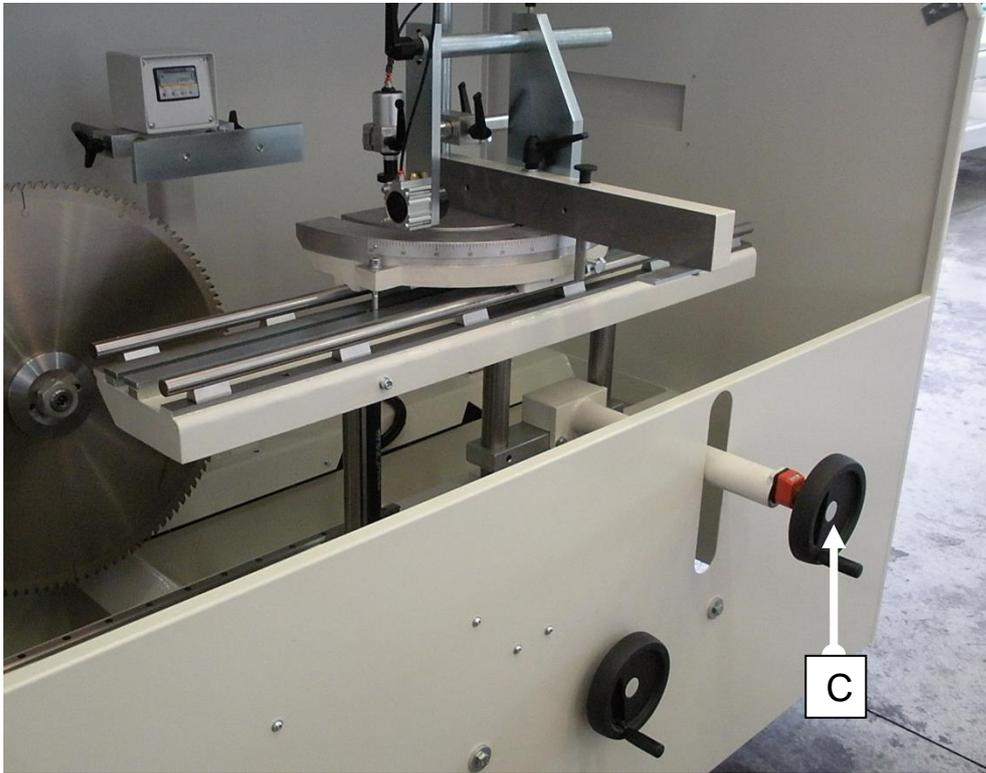
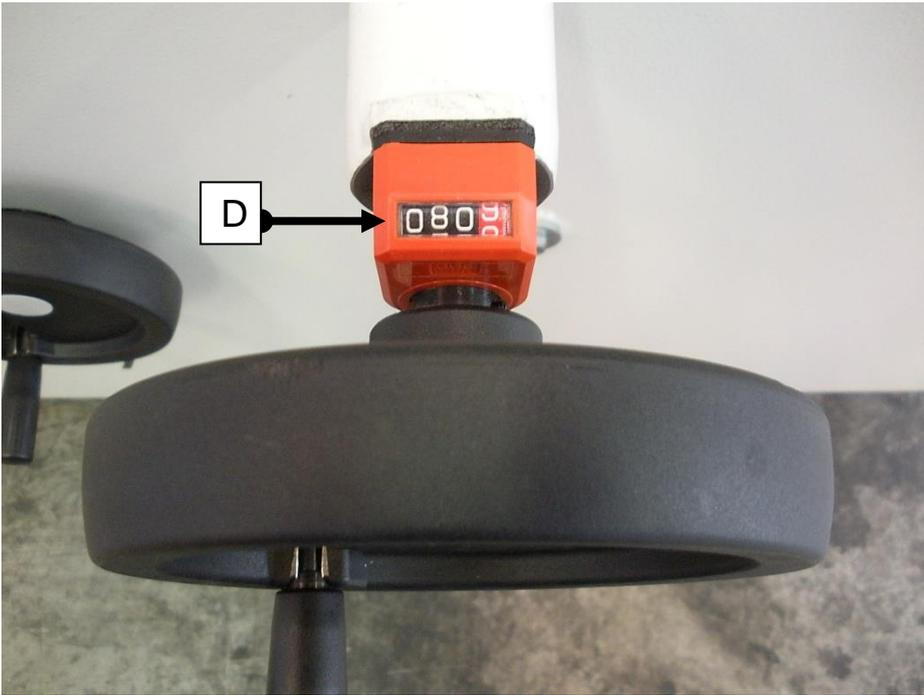

FIG.12
FIG.12B
- Turn hand wheel C (Fig.12) clock wise to lower it and anti clock wise to lift it to the required position that can be read on indicator D (FIG.12B).